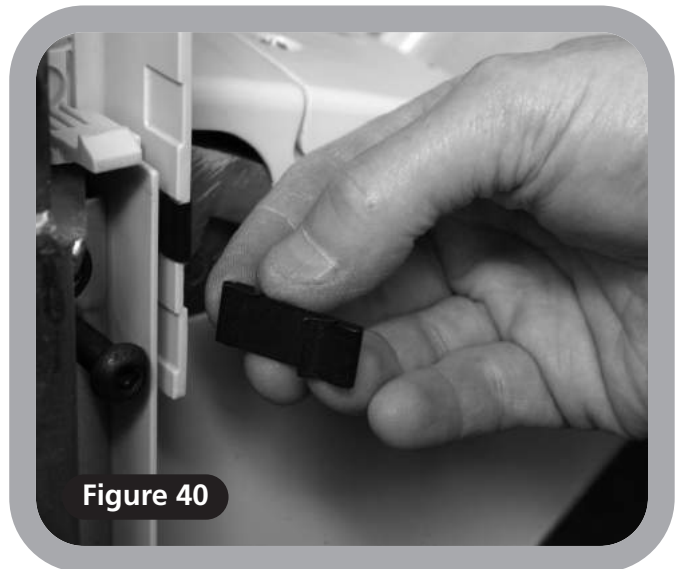
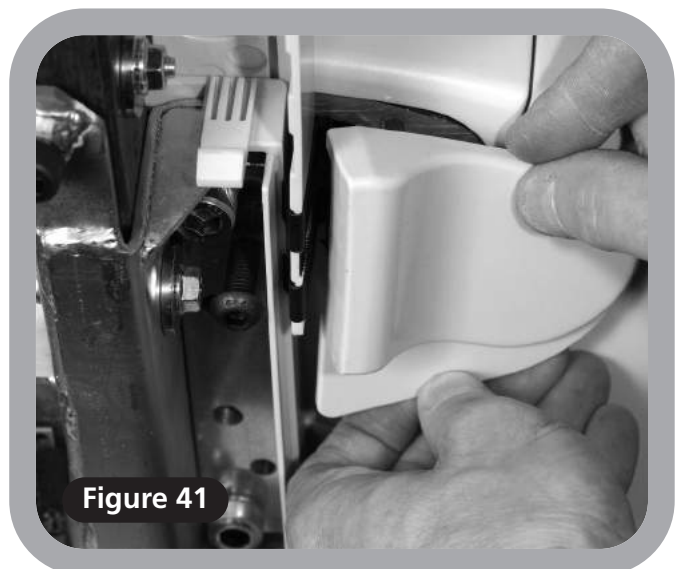

Figure 40
Figure 41
- 5 Using the clips provided (**Figure 40**) fit the cover plate to the front chassis (**Figure 41**).